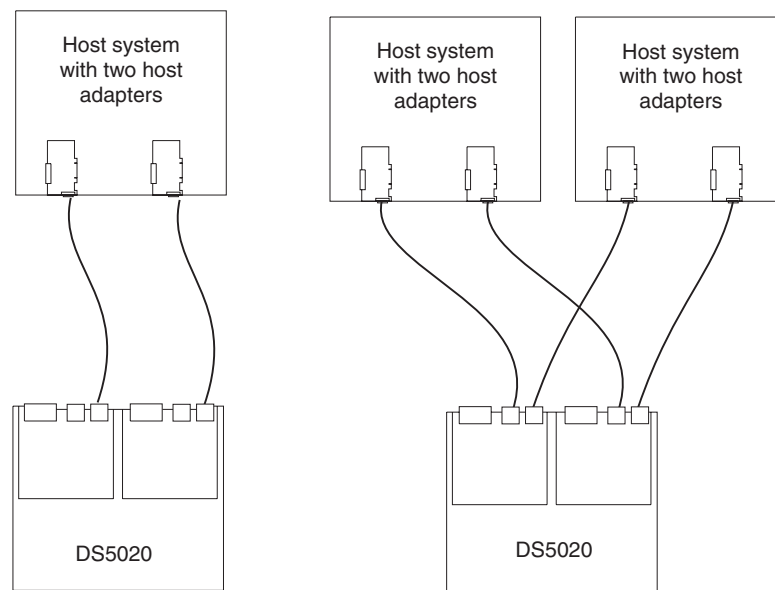

Figure 56. Examples of redundant host direct attached Fibre Channel SAN configurations
- Redundant host direct-attached configurations, as shown in Figure 56